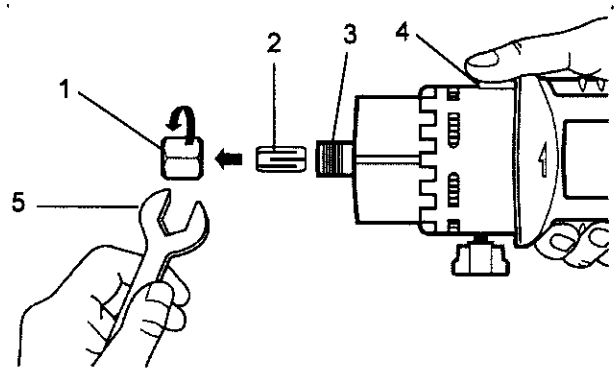

Fig. 1
2. Lock main shaft (3) by rotating the collet nut (1) while pressing on the spindle lock button (4) until the spindle lock prevents shaft from rotating (see Fig. 1).
3. Use cutting tool flat wrench (5) to loosen the collet nut by turning it counter clockwise. Remove collet (2) from inside main shaft of cutting tool.